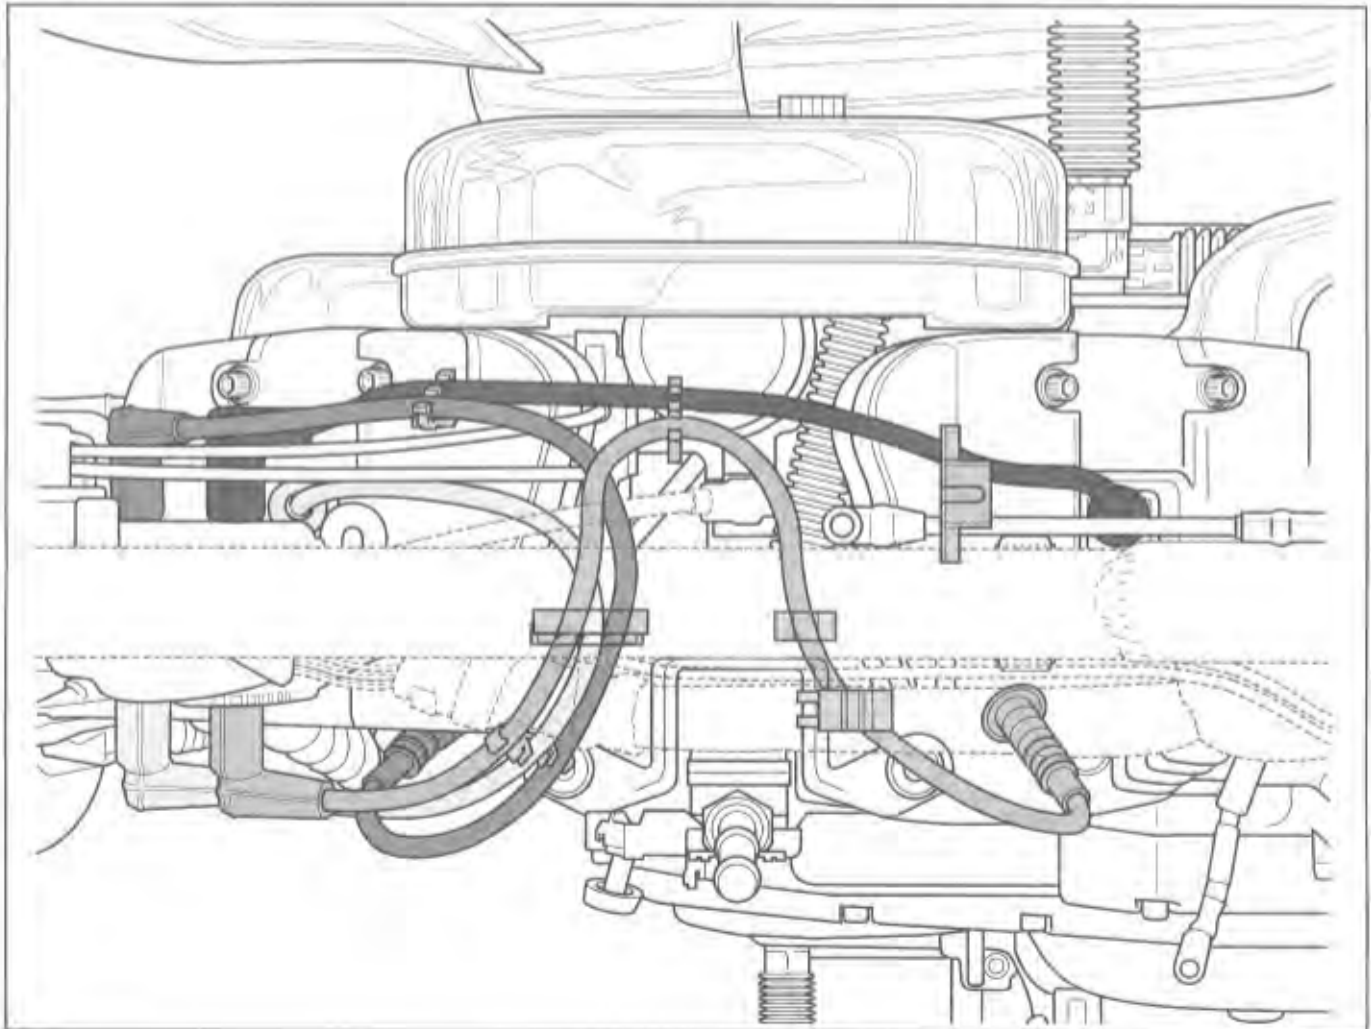

Figure 7-37, 1200S Spark plug cable routing
3. Remove plug wires from coil towers (note location, see Figure 7-37).
4. Attach plug wires to coil towers (see Figure 7-37).